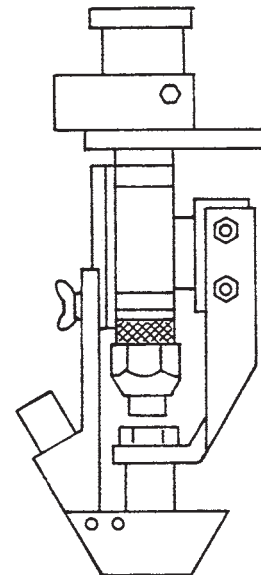

Figure 3
1. Unscrew the hose clamps entirely so that the open ends may be placed around the body of the nozzle. Place the stationary member of the unit directly opposite the arm coming out of the window of the nozzle, put the hose clamps back together and tighten. The stationary member should be positioned as shown in Figure 3.